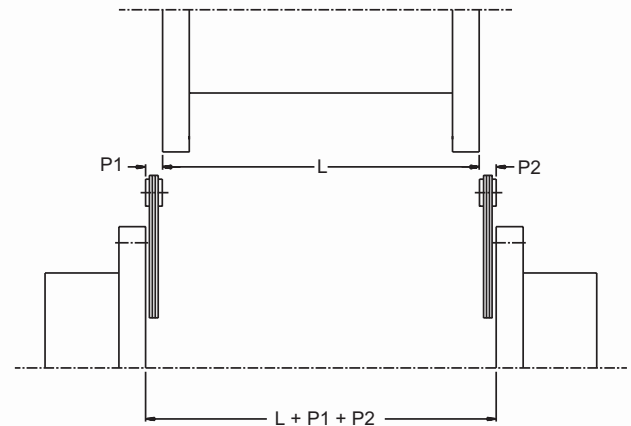

Figure 4. Axial Misalignment Measurements
- 3.3 Measure the length of the spacer and the thicknesses of the two disc packs. See Figure 4. Measure the separation between the hub flanges and adjust the equipment until the axial hub separation equals the sum of the disc pack thicknesses and spacer length. Hub separation =  $L + P1 + P2$ .